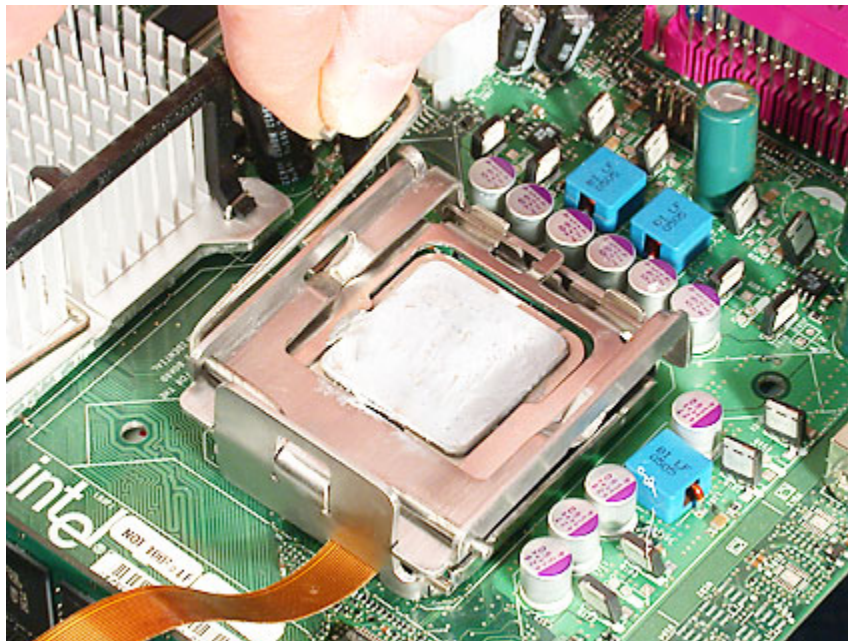

Figure 2.11 Actuating the Top Clamp Lever
11. Hold the End Plate against the Top Clamp and actuate the Top Clamp Lever, clipping it under the retaining hook on the side of the Top Clamp (Figure 2.11).